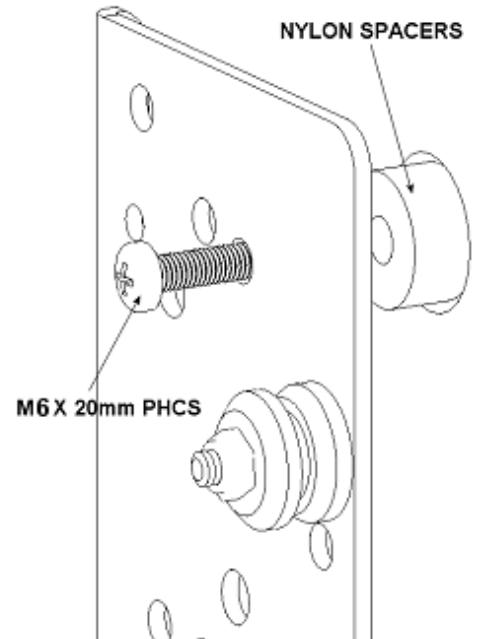
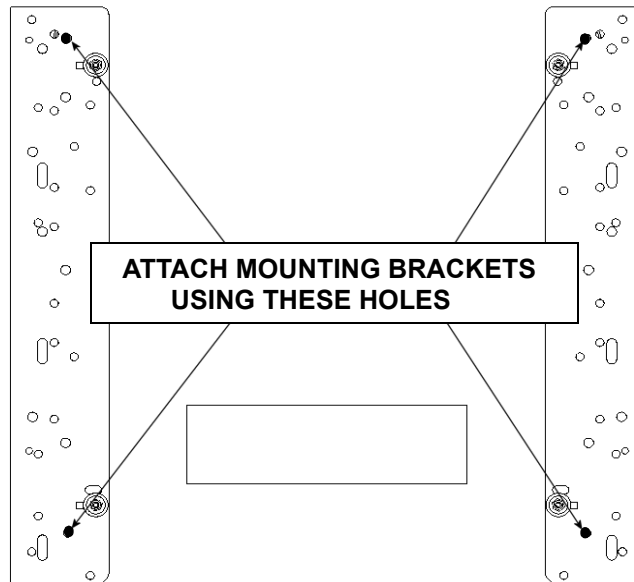

Figure 31. Spacer Installation for Group 10
Figure 32. Bracket Attachment for Group 10
3. Place the four Nylon spacers over the mounting holes on your Large Flat Panel display (see Figure 31).
4. Place the interface brackets over the Nylon spacers (see Figure 31 and Figure 32).
6. Using the hardware in the parts bag labeled F, secure the interface brackets to your Large Flat Panel display (see Figure 31 and Figure 32). Do not overtighten the mounting screws.